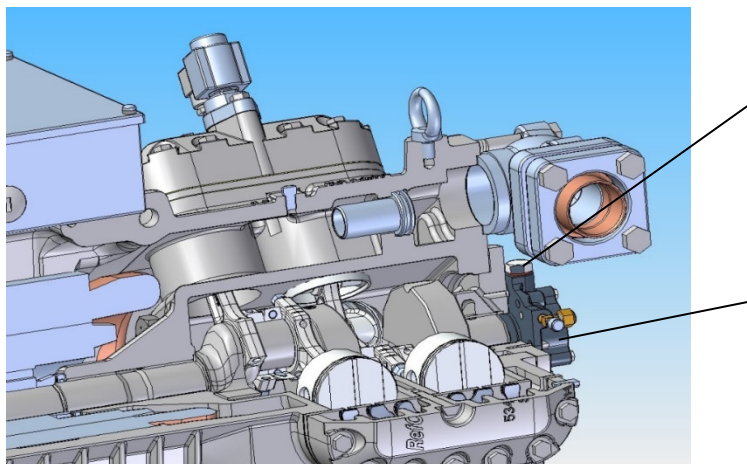

Fig. 14 Detail of gear pump and safety valve of RP1-L/H4xx RP1-L/H6xx RP1-L/H8xx
The gear pump has also a safety valve (ref. 23 in Fig. 14), which allows the oil by-pass to the carter when the delivery pressure exceeds the set value (open at 4,1 bar; rearmament 2,8 bar).